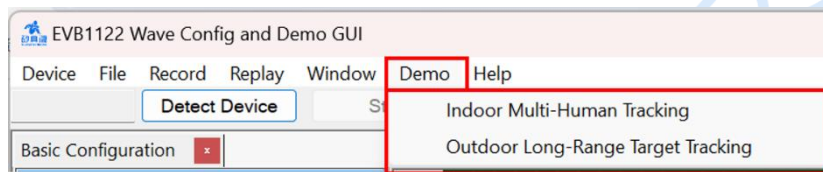

Figure 4-6 The submenu of the "Demo" menu
Step 3: Click the **Demo** menu in the *Main Menu Bar*, choose the desired submenu (as shown in Figure 4-6) to open the corresponding program.